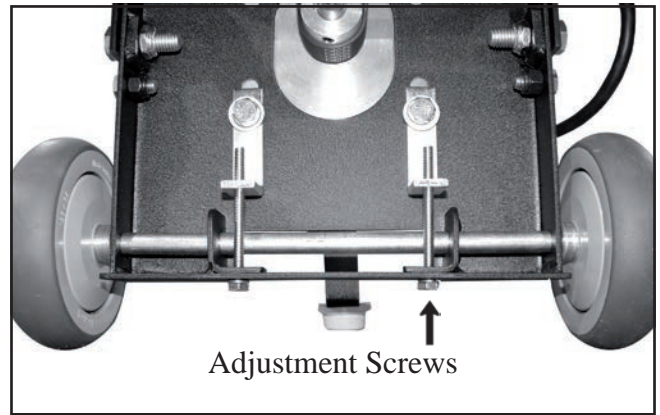

Figure 6
1. Loosen bolts holding the drive motor to the frame. **DO NOT REMOVE** (fig 6)